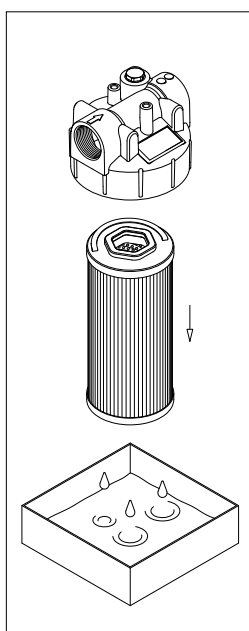

fig. 3
- (Fig. 3) (Fig. 3) Pull the filter element out